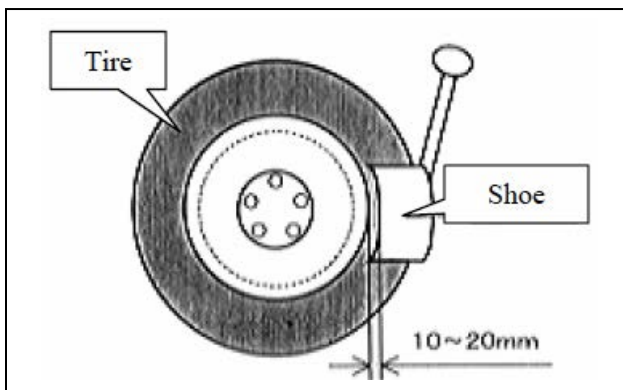

Figure 6
- (c) Carefully separate the upper tire bead from the wheel rim. See Figure 6.